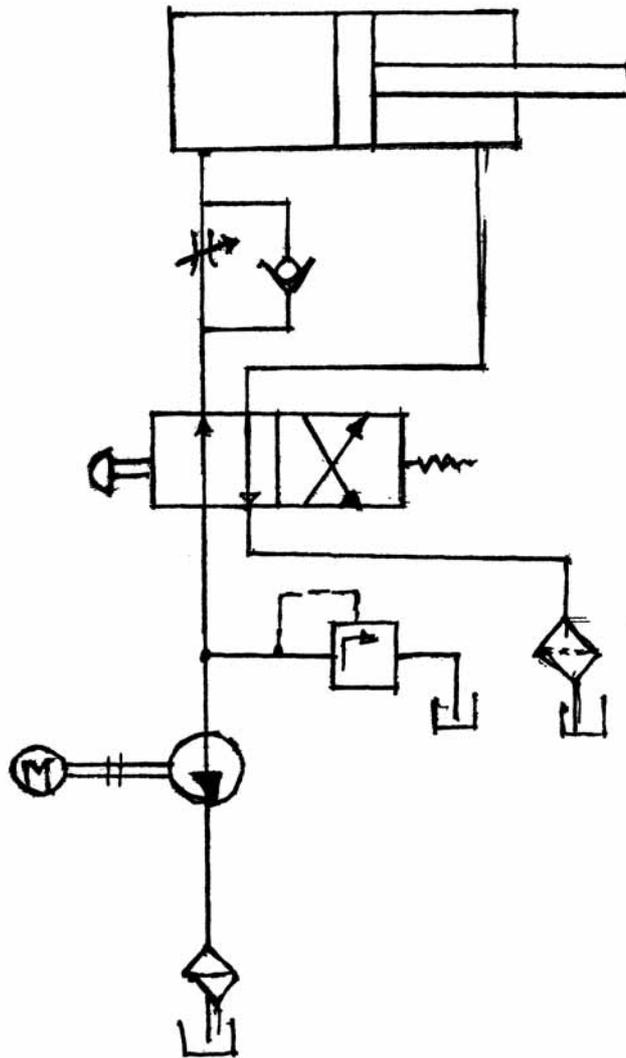

Fig. No. 1 Q. 6 (3)
- 3) a) Identify the following circuit in Figure No. 1.